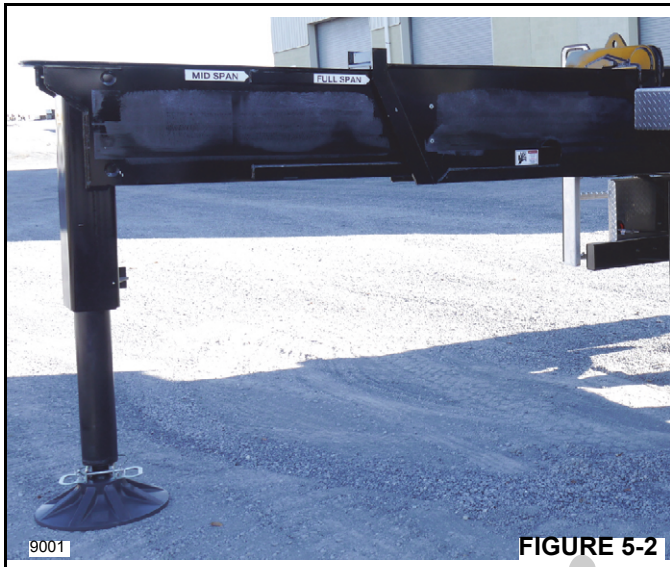

FIGURE 5-2
1. Fully extend and set the outriggers. Refer to (Figure 5-2.)